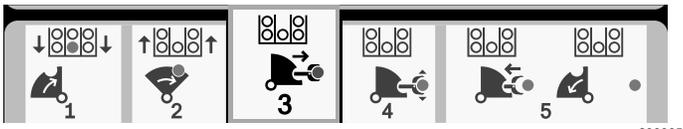

Figure 33
6. Release the button to proceed to the next step in the sequence (Figure 33).